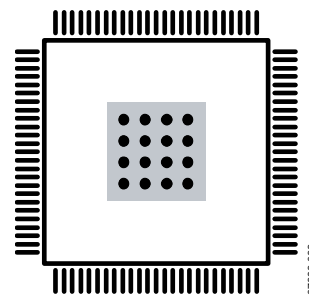

Figure 61. Exposed Pad Layout Example—Top View
- Vias should be placed to connect all layers of copper, allowing for efficient heat and energy conductivity. For an example, see Figure 61, which has 16 vias arranged in a 4  $\times$  4 grid in the pad area.